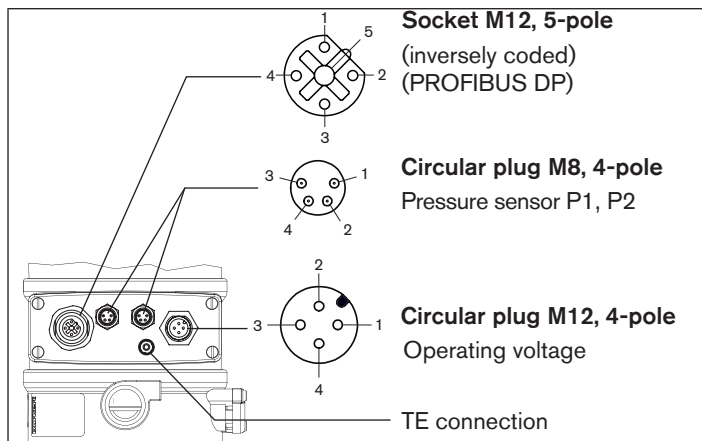

Fig. 13: Connection with PROFIBUS DP
→ Connect the process controller according to “Fig. 13” and “Tab. 10”, “Tab. 11”, “Tab. 12”.
The electrical connection module of Type 8693 features a setscrew with nut which is used to connect the Technical Earth (TE) (see “Fig. 13: Connection with PROFIBUS DP”).